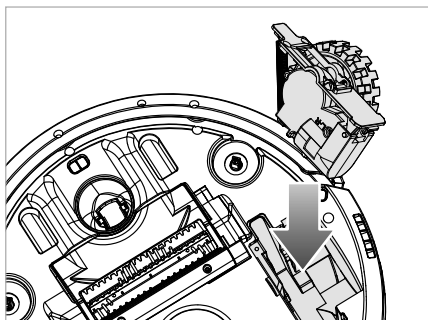

Fig. 23
- 4) Insert the wheel **20/34** back into the wheel compartment (see Fig. 23).